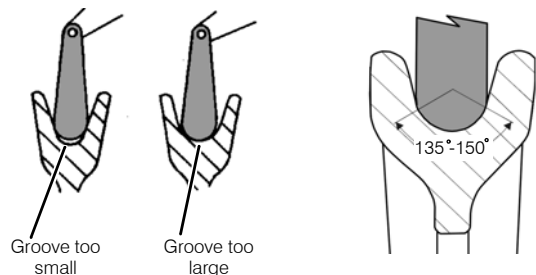

Figure 6-7 Sheave Inspection Measurement
- Check the depth, width, and contour of each sheave using a groove gauge as shown in Figure 6-7. Replace sheaves that have over or undersized grooves.